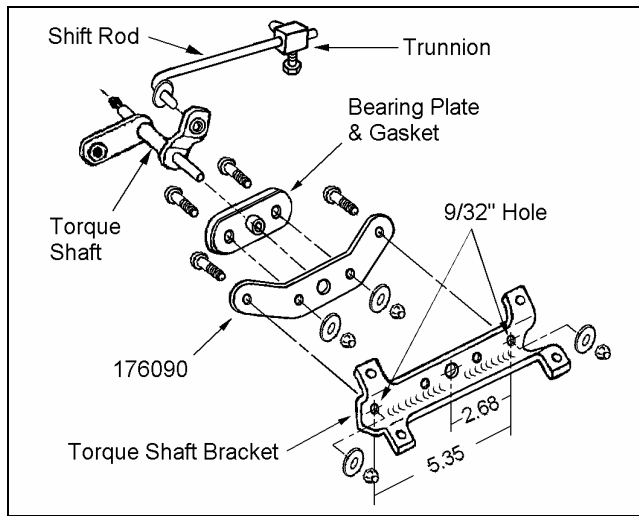

Figure 20
- 4) ☐ Attach the bearing plate (with gasket) to shift relocating bracket 176090 as shown in figure 20.
- 5) ☐ Using bracket 176090 as a template, mark the two mounting hole locations on the torque shaft bracket. See figure 20. Drill a 9/32" hole at each location.
- 6) ☐ Attach the shift relocating bracket 176090 to the torque shaft bracket with the hardware from kit 860160. See figure 20.